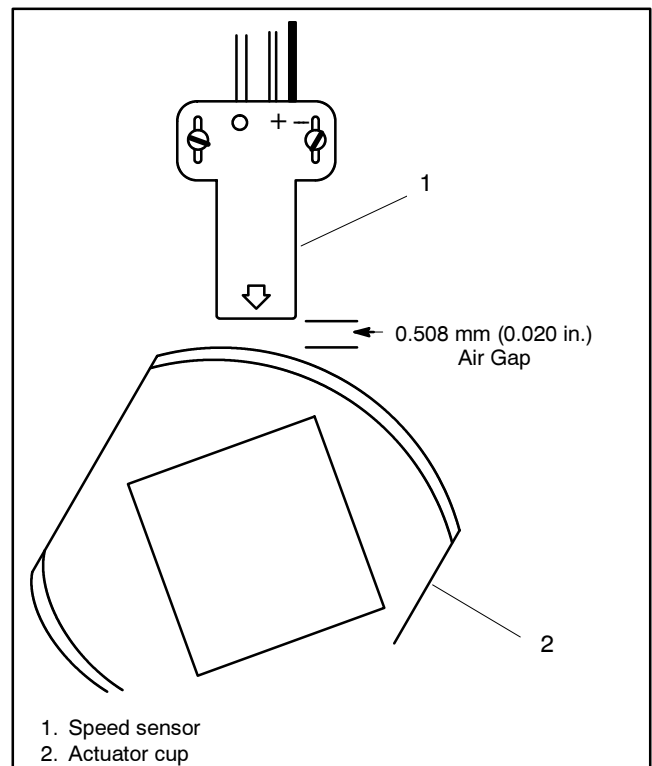

Figure 8 Speed Sensor Air Gap
19. Reconnect speed sensor leads. Set speed sensor air gap at 0.508 mm (0.020 in.). See Figure 8.